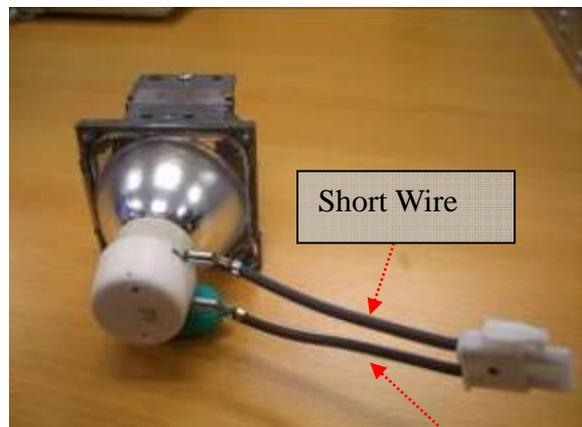

Fig. 1-11
- I. Lamp Wire arrangement have to look likes as below(Figure 1-11)